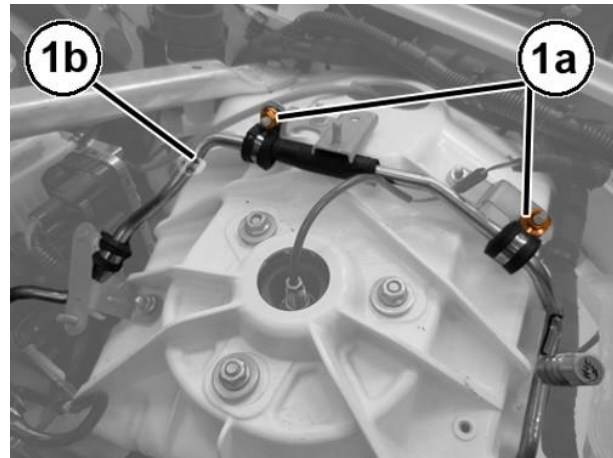

Figure 62 – Refrigerant Pipe
54. Remove the nut (1a) and move the supply pipe to the evaporator (1b) aside (Figure 62).